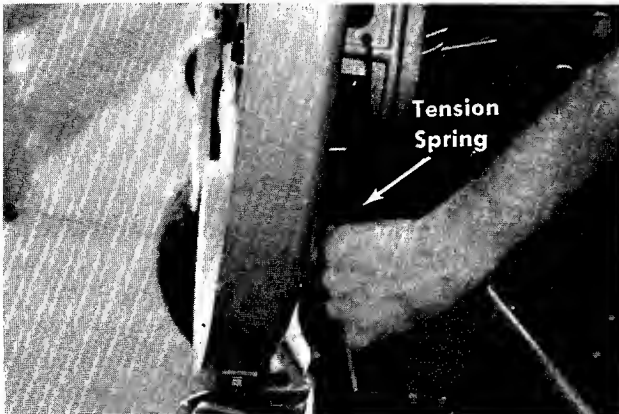

FIGURE 30. REMOVING TENSION SPRINGS
- Step 5. Unhook the tension springs on both sides of the deck. See figure 30.